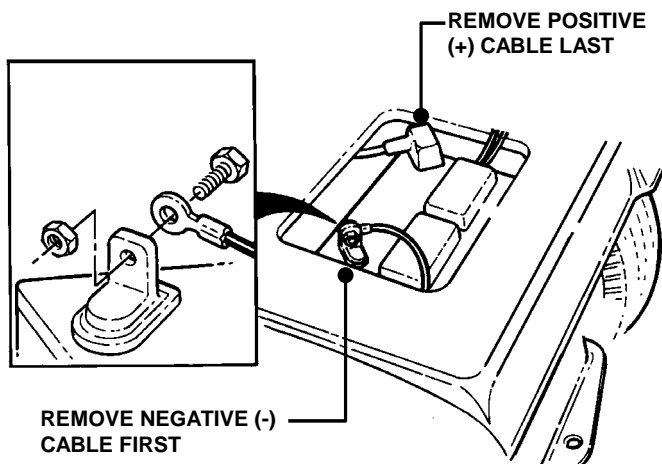

FIGURE 4.34
6. Remove battery. See Figure 4.34.